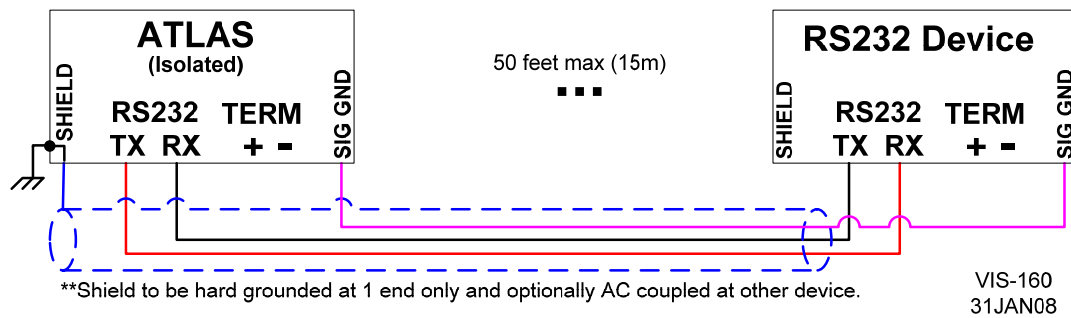

Figure 4-21. Example–RS-232 Interface to the SmartCore CPU A5200
- **RS-232.** Refer to Figure 4-21 for RS-232 wiring. The transmit data (TXD), receive data (RXD), and signal ground (SIG GND) must be properly connected as shown. In addition the shield (SHLD) should be connected in at least one location.